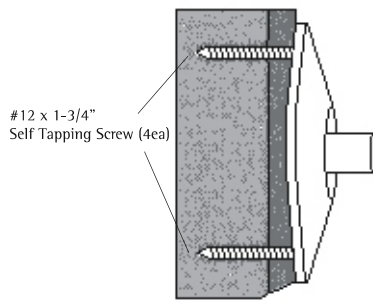

Figure 7
- In wall mounting applications position mounting holes in a vertical pattern (Figure 7).
- Drill holes through the drywall and into the wood stud using a 1/8" drill bit. These holes should be drilled 1-7/8" deep (Figure 7).